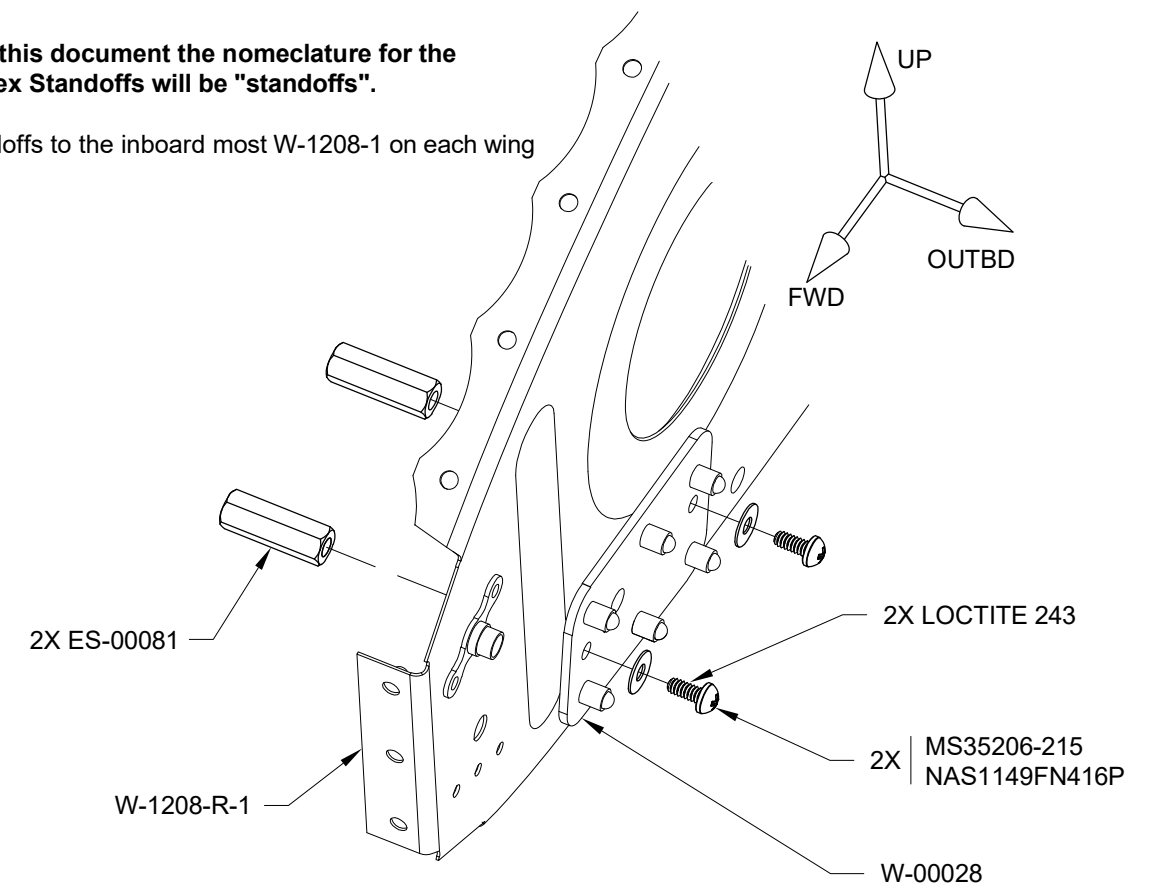

FIGURE 4: ATTACHING THE STANDOFFS (LEFT WING SHOWN, STUB SPAR NOT SHOWN FOR CLARITY)
Step 4: Attach ES-00081 standoffs to the inboard most W-1208-1 on each wing as shown in Figure 4.